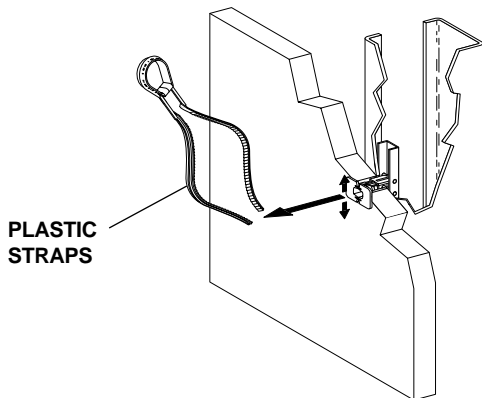

FIGURE 6
17. Insert your thumb between the plastic straps (see Figure 6). Push the strap side to side, snapping off the straps at the wall.